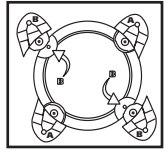

FIGURE 7
5. Take caster feet marked with the letter **B**. **FIGURE 6** and insert stem of caster foot into holes on right front and left rear of tank also marked with the letter **B**. **FIGURE 7**.